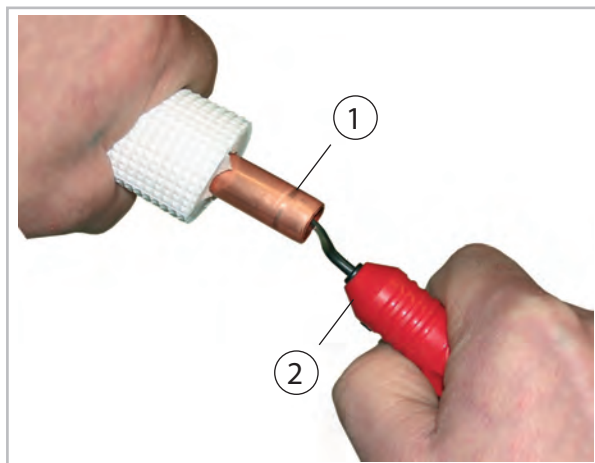
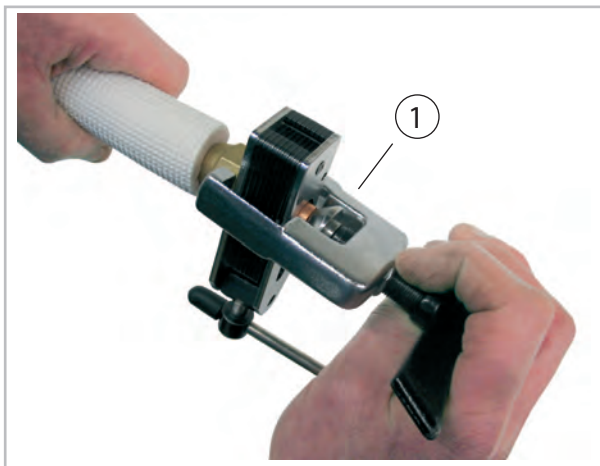

Fig. 32: Deburring the refrigerant piping
Fig. 33: Flanging the refrigerant piping
8. ➤ Prepare the laid refrigerant piping as shown below (Fig. 32 and Fig. 33).